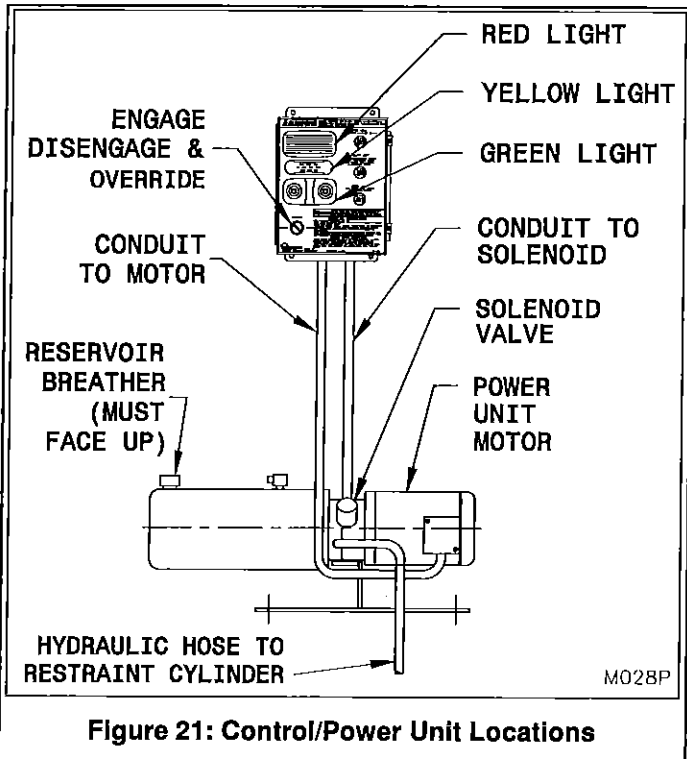

Figure 21: Control/Power Unit Locations
1. Mount the power unit horizontally with reservoir breather facing up (see Figure 21, Page 19). When mounting the power unit on a wall, position the power unit above the wall bracket keeping the 1/2" wall mount holes below the power unit. This ensures easier access to all the wall bracket holes when mounting the power unit (see Figure 22, Page 19).